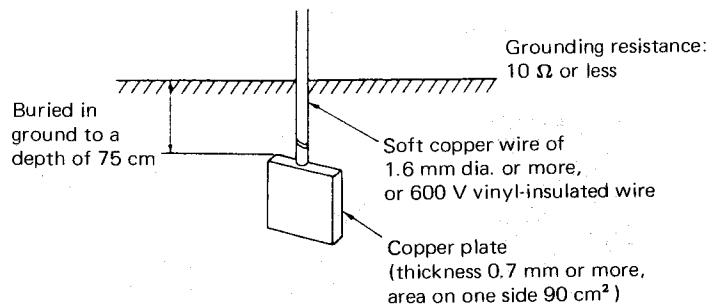

Fig. 1-4 Standard Grounding Work
- (1) Room free from dust and well ventilated. (The reaction cuvettes of this analyzer are not covered.)
- (2) Not exposed to direct sunlight.
- (3) Level floor (gradient 1/200 or less).
- (4) Sturdy floor; the analyzer weighs approximately 450 kg.
- (5) Ambient temperature should be 15° to 32°C throughout the year, and variations of it during the operation should be within ±2°C.
- (6) Relative humidity should be 45 to 85 %.
- (7) Unaffected by vibration.
- (8) Power distribution board is within 5 m of the analyzer.
- (9) Minimum power fluctuation (voltage fluctuation ±10 % or less).
- (10) Away from a machine producing a high frequency (centrifuge, discharge unit, etc.).
**Caution:** A grounding terminal whose resistance is 10 Ω or less should be provided in the vicinity of the installation location. (See Fig. 1-4.)